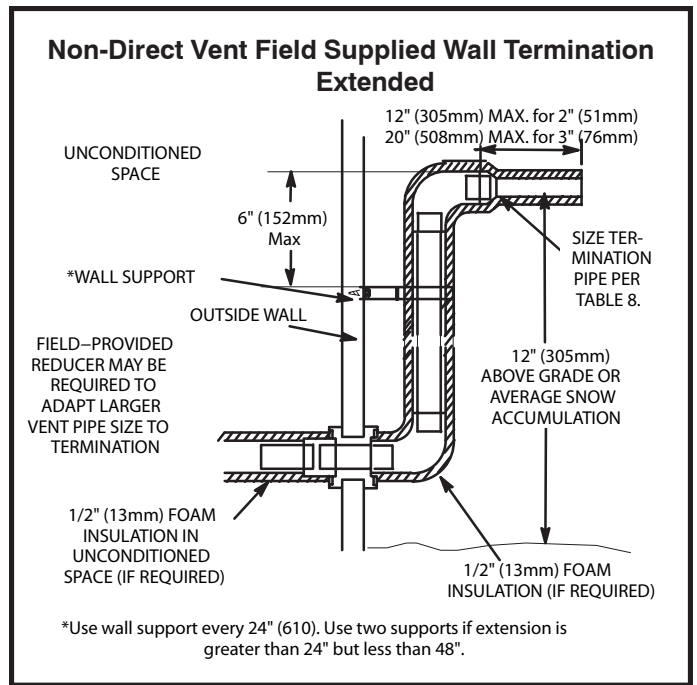

Figure 35
3. If exhaust piping must be run up a sidewall to position above snow accumulation or other obstructions, piping must be supported every 24" (610 mm) as shown in Figure 35. When exhaust piping must be run up an outside wall, any reduction in exhaust pipe size must be done after the final elbow.